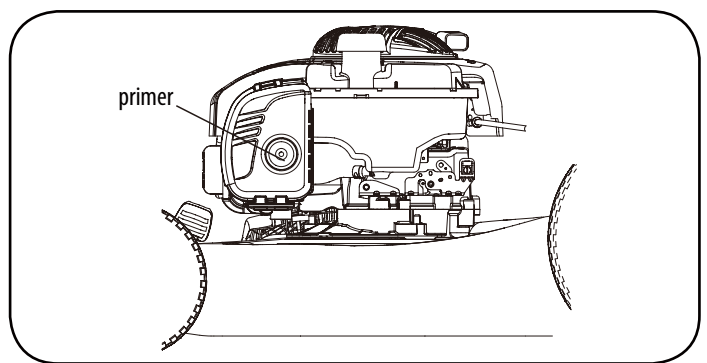

Figure 13
1. When starting a cold engine, press down the primer fully 3-5 times (see Figure 13).